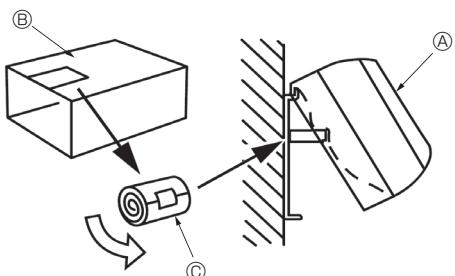

**Fig. 3-10**
3. While inserting the refrigerant piping and drain hose into the wall penetration hole (penetration sleeve), hang the top of the indoor unit to the mount board ①.
5. Fasten by pushing the bottom part of the indoor unit onto the mount board ①. (Fig. 3-10)
- \* Check that the knobs on the bottom of the indoor unit are securely hooked into the mount board ①.
- Ⓐ Mount board ①